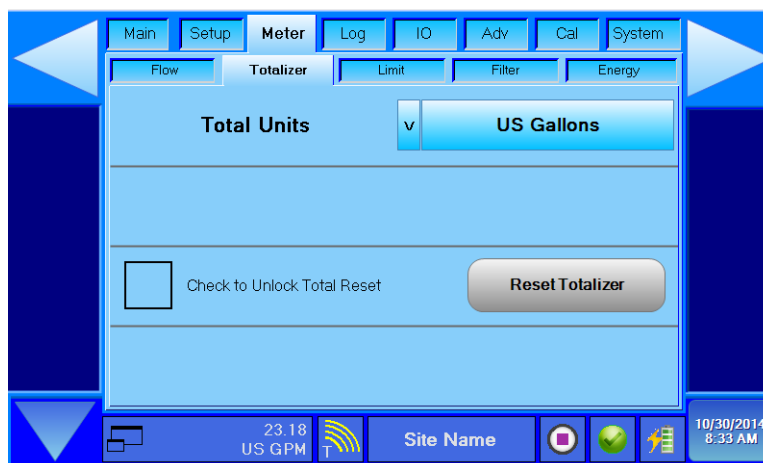

Figure 72: Totalizer setups
1. Press **Check To Unlock Total Reset** box (See Figure 72). A checkmark appears in the box. The *Reset Totalizer* option becomes active.